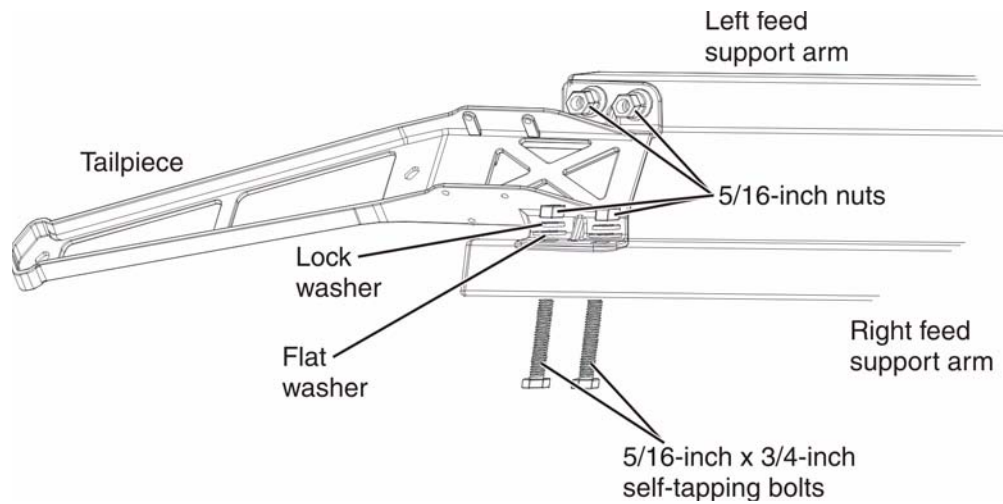

Figure 14: Attaching the tailpiece
| 5/16-inch flat washers                             | 4        | Tailpiece to feed support arms                               | Figure 14 on page 22                      |
3. Attach the tailpiece to the free ends of the two feed support arms as shown in Figure 14, using four 5/16-inch  $\times$   $1\frac{3}{4}$ -inch self-tapping bolts, flat washers, lock washers, and nuts.